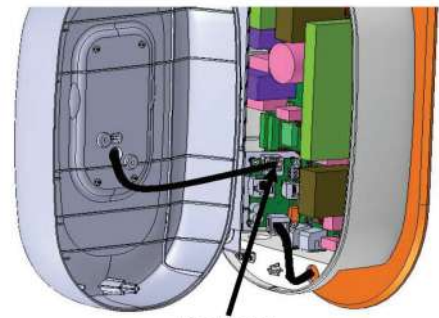

Figure 55
- Lift the base unit front cover slowly and disconnect the Console cable from J5 connector of Console extension board-internal located on the power board as shown in Figure 55 .